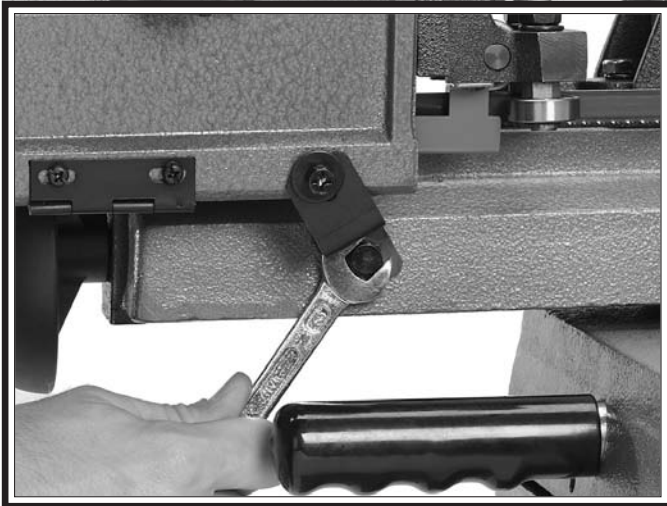

Figure 21. Removing shipping strap.
16. Remove the shipping strap hex bolt and strap with a 12mm wrench, as shown in **Figure 21**. Re-install the fasteners. Save this strap in case you need to transport or ship the bandsaw in the future.